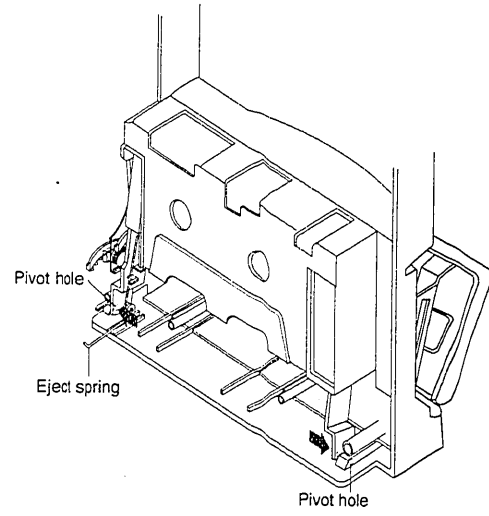
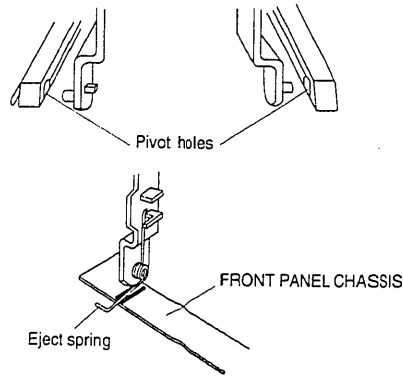

Fig. 15
Fig. 16
- (1) Gently release 1 latch from each side and then pull out the Lamp P.W.B.
- (2) Remove 1 connector ⑲ from the CD P.W.B.
- (3) Unsolder the LCD and pull out toward the arrow direction.
14. **Installing Cassette Doors (Fig. 15 & Fig. 16)**
Relationship between current and light intensity is shown in Fig. 16. When the threshold current is exceeded, intensity changes steeply. The threshold current value is a little different depending on individual laser.